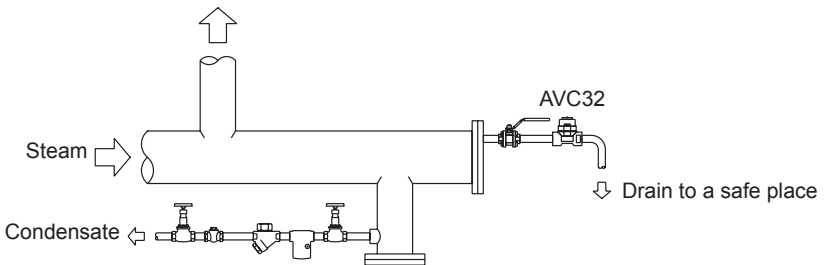

Fig. 2 Terminal end of distribution main
- 3.4** The AVC32 should be installed with the capsule in a horizontal plane with the cap at the top, and be positioned at the highest point of the main, or plant where the air collects. For maximum removal of air the discharge should be as free as possible, piped to a safe location (see Figures 2 and 3).